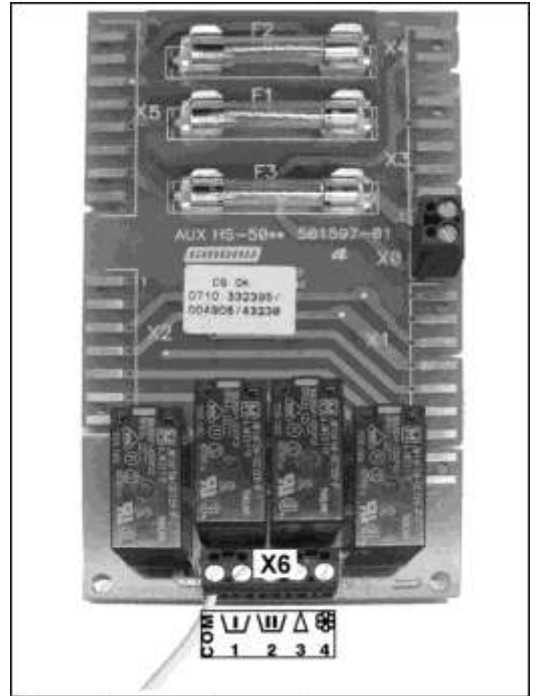

Fig. 3.12
**External dosing equipment connection (Fig. 3.12)**